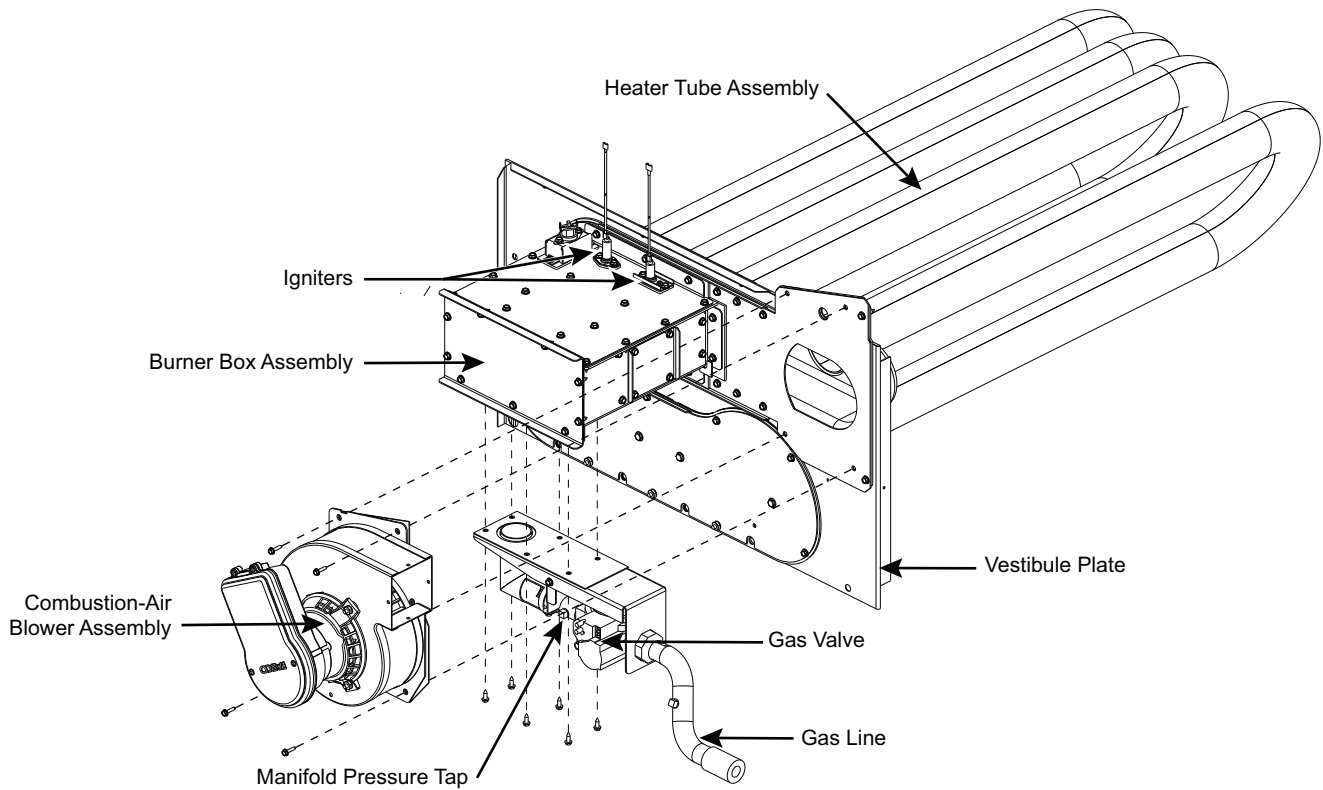

Fig. 52 — Heat Exchanger Assembly
2. Remove the four screws attaching the induced-draft motor housing to the vestibule plate. (See Fig. 52.)
9. Remove the six screws attaching the gas valve assembly to the burner box assembly (see Fig. 52).